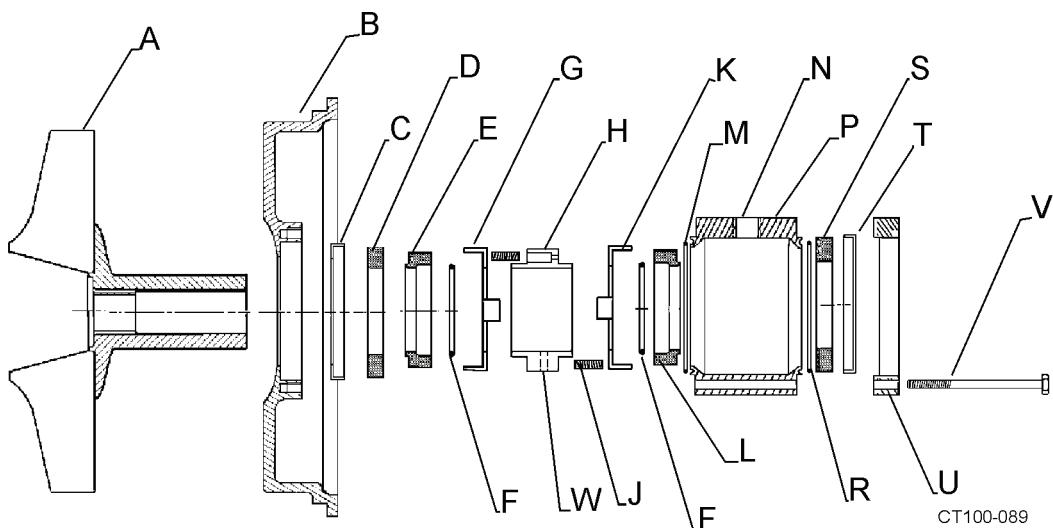
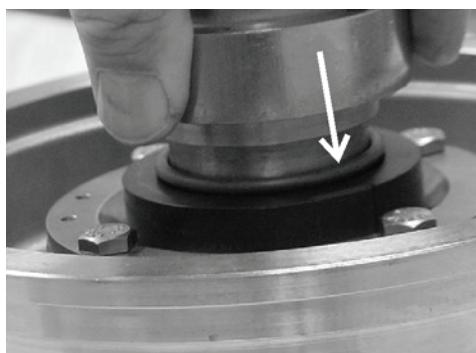

Figure 41 - Type 4 Seal Components
Figure 43 - Installing the o-ring using the Spring Retainer.
Table 16: Callouts for Figure 41
2. Install L-gasket in backplate. (See Figure 41, items B and C).
3. Install L-gasket in seat retainer. (Figure 41, item T).
4. Install stationary seals (Figure 41, item S) in L-gaskets.
7. Place the o-ring (Figure 41, item F) on the shaft and use a spring retainer to push o-ring into the rotary seal. See Figure 43.
8. Place the washer (Figure 41, item G) over the rotary seal with tabs in the outside diameter notches.
9. Place the three springs (Figure 41, item J) in one side of the spring retainer (hold them in place with silicone sealer) and slide the spring retainer (with the springs down) onto the impeller shaft against washer.
10. Place the remaining three (3) springs in the spring retainer.
11. Slide the washer and o-ring (See Figure 41, items K and F) onto the shaft against the spring retainer.
13. Remove the 1/4 NPT plug from the center port on the flush housing. (See Figure 41, page 38, item N).
14. Install an o-ring (See Figure 41, items R and M) in both ends of the housing.
15. Install the L-gasket in the seat retainer. (See Figure 41, items T and U).
16. Install the stationary seal (Figure 41, item S) in the L-gasket.
18. With the flush ports facing away from the backplate, place the seat retainer (Figure 41, item U) on the housing.
19. Tighten the seat retainer in place with four (4) hex screws (Figure 41, item V).
25. Tighten the set screws in the spring retainer through the 1/4 NPT center port in flush housing (Figure 41, item N).